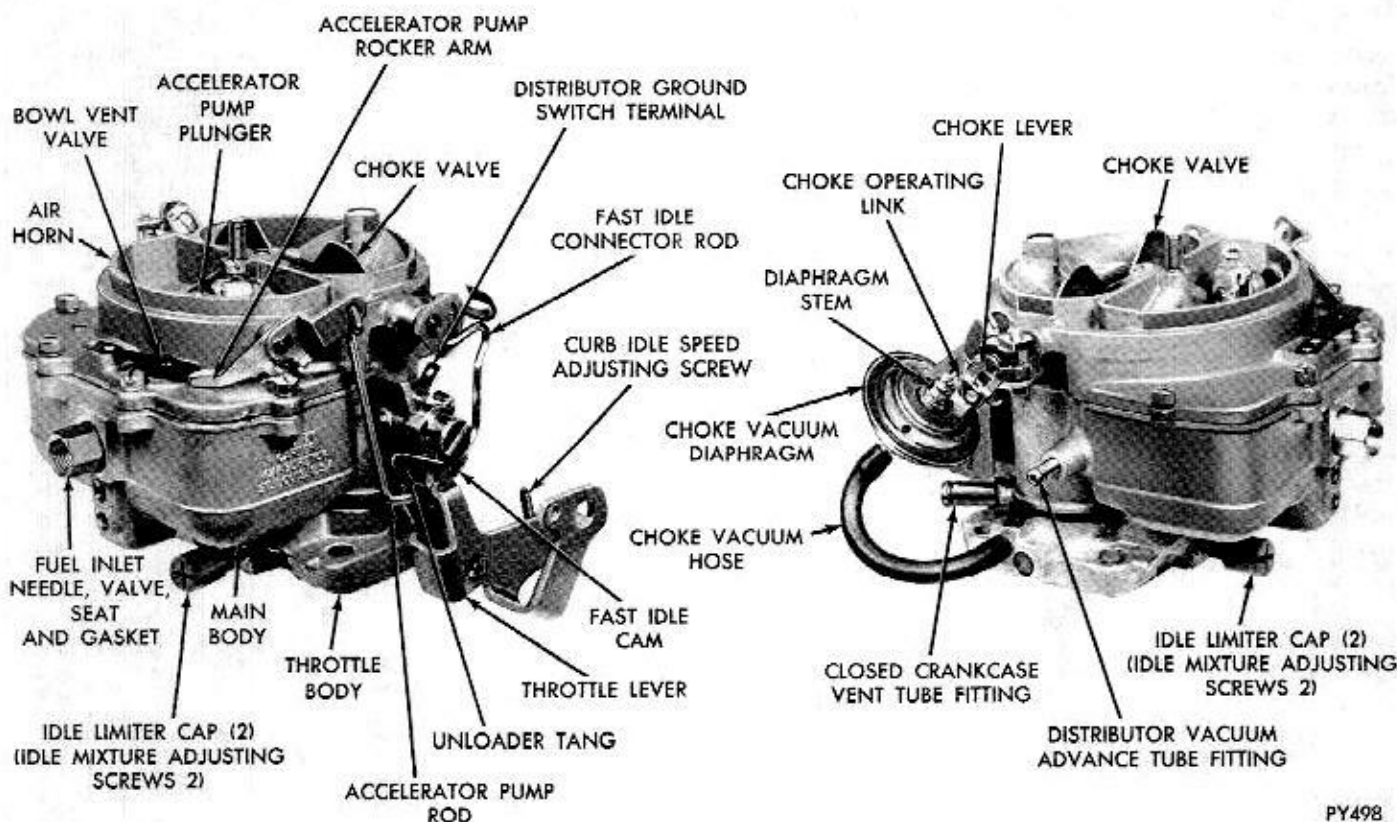

Fig. 1—Carburetor Assembly (BBD-1-1/2 inch) C.A.S.
The Ball and Ball dual throat 1-1/2 inch Carburetor Models C.A.S. (Cleaner Air System) BBD-4725S, BBD-4726S and BBD-4894S are used on the 383 cu. in. Engines when the vehicles are equipped with manual or automatic transmissions respectively. (Fig. 1). BBD-4726S is used only on vehicles without air conditioning while BBD-4894S is used only on vehicles with air conditioning. This carburetor is equipped with a hot idle compensator valve, which is a thermostatically operated air bleed, to relieve an overrich condition at idle. This condition is the result of excessive heat and resultant overrich mixtures. These three carburetors are also equipped with a distributor ground switch, which retards the distributor when the carburetor is
DISASSEMBLING CARBURETOR (Fig. 1 or 2)
(1) Insert three Tool T109-287S and one Tool T-109-288S elevating legs through carburetor throttle body stud holes. (These tools are used to protect throttle valves from damage and to provide a suitable base for working.)
(2) Remove hairpin clips and disengage fast idle connector rod from fast idle cam and choke lever.
(3) Remove hairpin clip and disengage accelerator rod from throttle lever and pump rocker arm.
(4) Remove vacuum hose between carburetor throttle body fitting and vacuum diaphragm.
(5) Remove clip from choke operating link and disengage link from diaphragm plunger and choke lever. (Fig. 1 or 2).